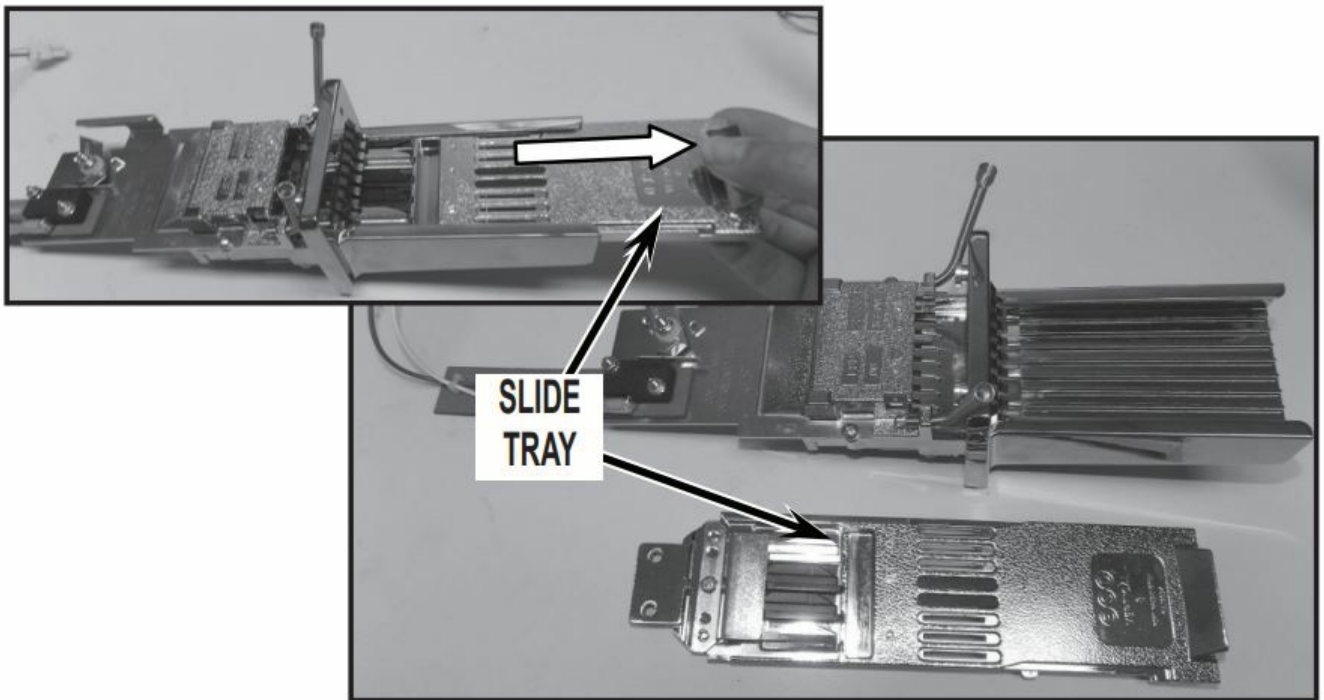

FIGURE 5
4. Grasp and pull the slide tray out of the coin slide body. See Figure 5.